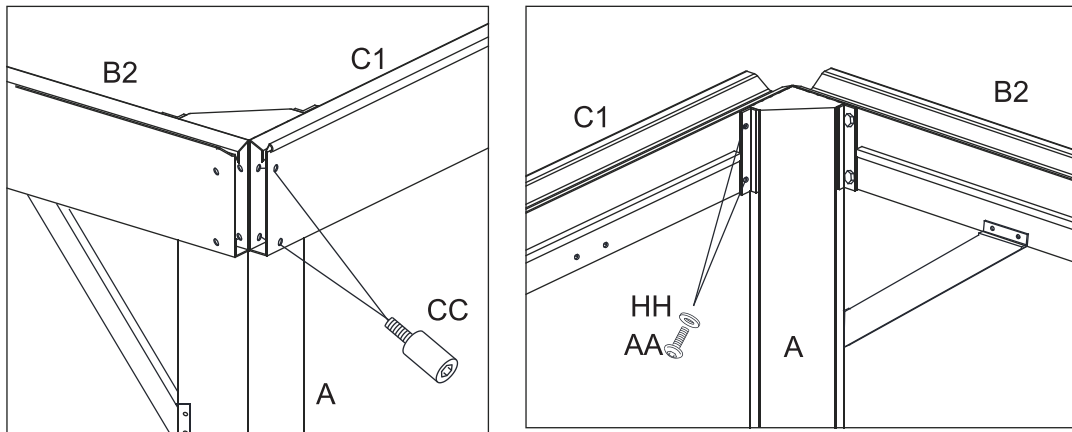
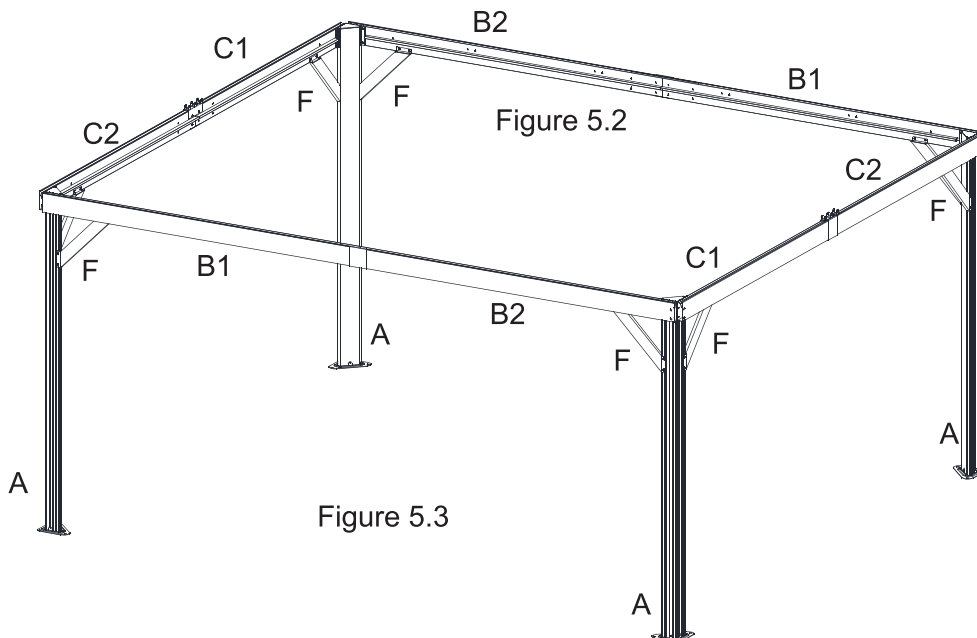

Figure 5.1
Figure 5.3
- 5.1. Attach Lintel (C1 and C2) to Corner Posts (A) first with Bolts (CC) then with Bolts (AA) and washer (HH). Tighten all the Bolts. Repeat for opposite side. Tighten all Bolts. See Figure 5.1 and Figure 5.3.
- 5.3. Repeat for all Corner Posts and Lintels. Tighten All Bolts. See Figure 5.3.